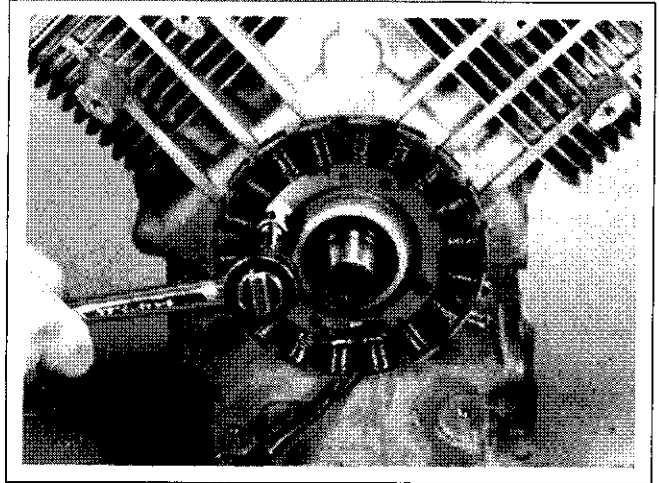

Figure 9-57. Removing Alternator Stator.
2. Remove the two hex. screws and stator. See Figure 9-57. Note position of stator lead.